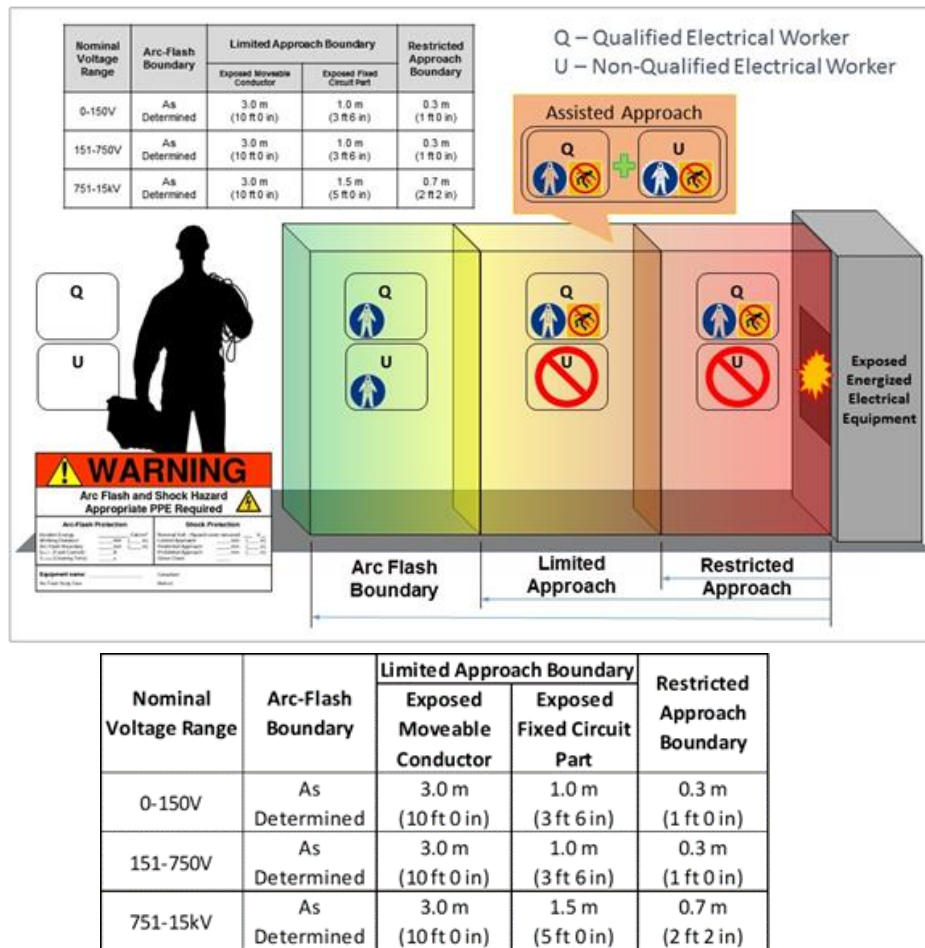

Figure 1 Approach Boundaries for Shock, Qualified Electrical Worker vs. Unqualified Personnel (e.g. Non-Electrical Worker)
- 4.9 Non-qualified personnel shall remain outside the shock protection or Arc Flash Boundaries when energized work is being performed. See Figure 1 below.
**Note:** See Figure 1 below for 6.9 - 6.12
- 9.1 Work area shall be established and marked around energized work at either the Limited Approach Boundary or Arc Flash Boundary (whichever distance is greater) as defined in Figure 1.